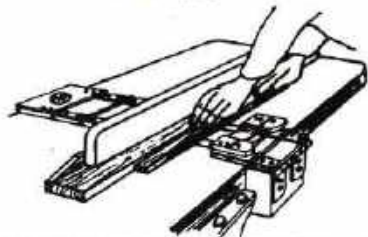
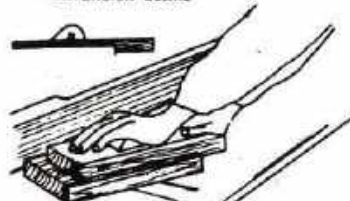

Fig. 660. PLANING A NARROW PIECE WITH AN EXTENSION BOARD
Fig. 661. PLANING SHORT STOCK WITH A PUSH SHOE
4. Push the stock forward firmly with both hands. Fig.660. When about 300 mm (approx. 12 inches) has been planed, move your left hand forward slightly beyond the cutter head. Stand at the left of the front table as you plane. Plane in the direction of the grain. Use a push block for planing surfaces of a narrow, shorter board. Fig.661.